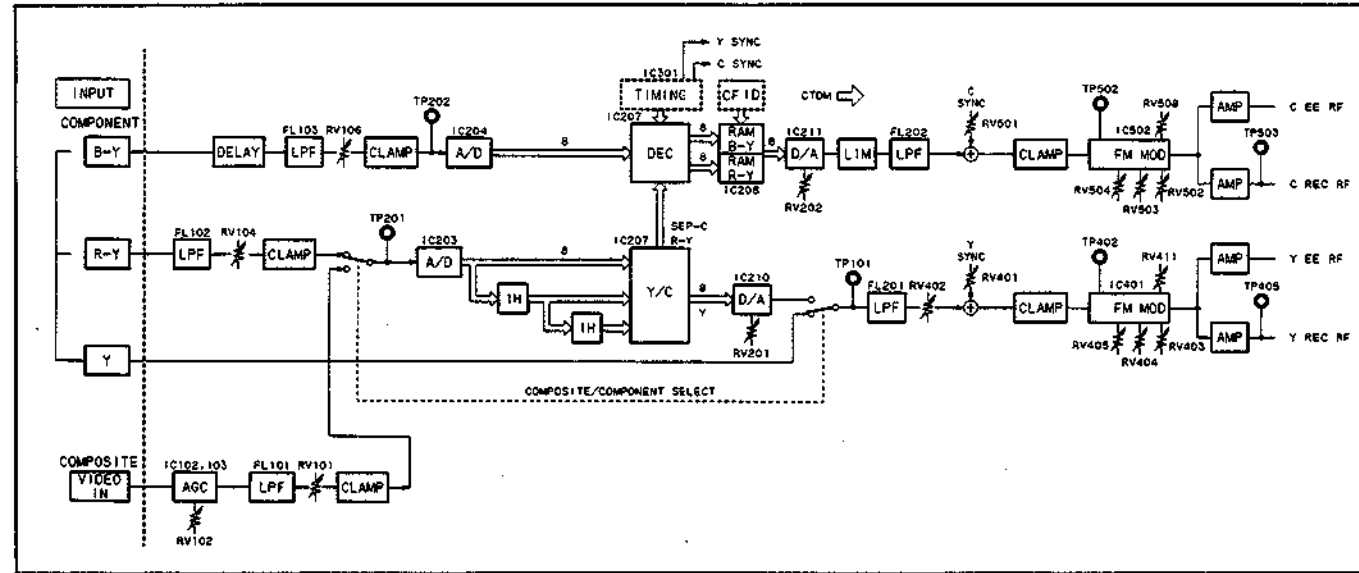

Fig. 1
The process is shown as fig.1. After A/D converting, the input signals are separated as Y/C, converted as component signal at decoder. The converted each signal is send to process of luminance signal (Y) system, B-Y and R-Y send to process of chroma signal (C) system. After that, Y-signal which added synchronized signal is FM-modulated and recorded at Y-R/P head. On the other side, chroma signal add B-Y and CFID (Color Framing ID), and is time-compressed to record within the time of 1H. The process is read back alternately R-Y by the double-pulsed clock of memory-write, then time-compressed to half. This compressed signal is called CTDM signal. The chroma signal resulted in CTDM signal is FM-modulated after phase adjustment with Y signal, recorded at C-R/P head.